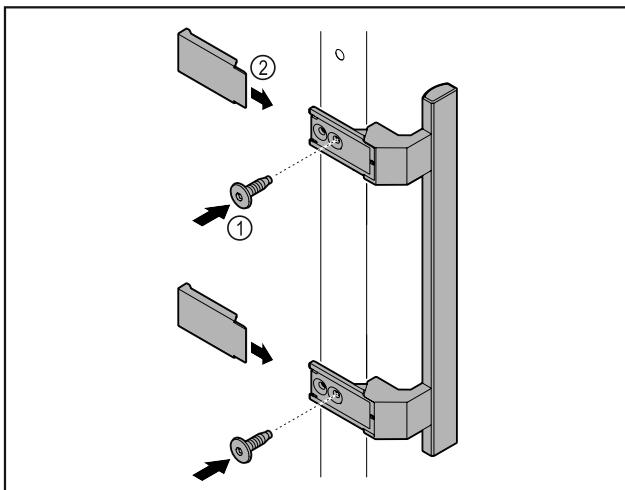

Fig. 8
- Attach handle from accessory kit to the door using supplied screws Fig. 8 (1).
- Put on cover Fig. 8 (2).